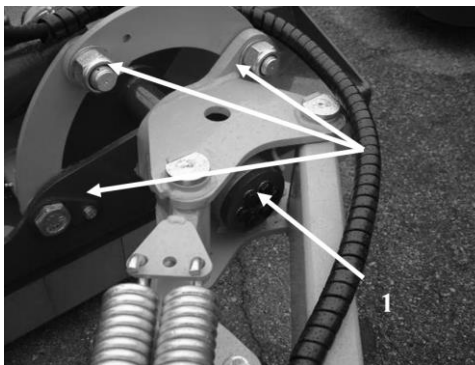

Figure 33
IMPORTANT: Never tighten the nuts on the connecting part (Figure 33 (1)) completely; the connecting parts must remain movable. Proper tighten nuts are when tighten the nuts till the end and then loose them for ¼ of the round.